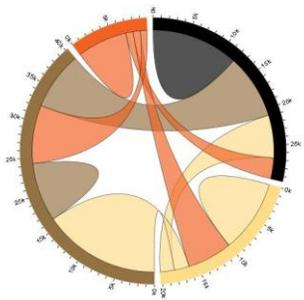

Figure 15 Chord Charts can show change.
- Chord charts (Figure 15) can illustrate how groups migrate or move. Unfortunately since the team hasn't done any masterplanning yet, there is no decanting to illustrate.